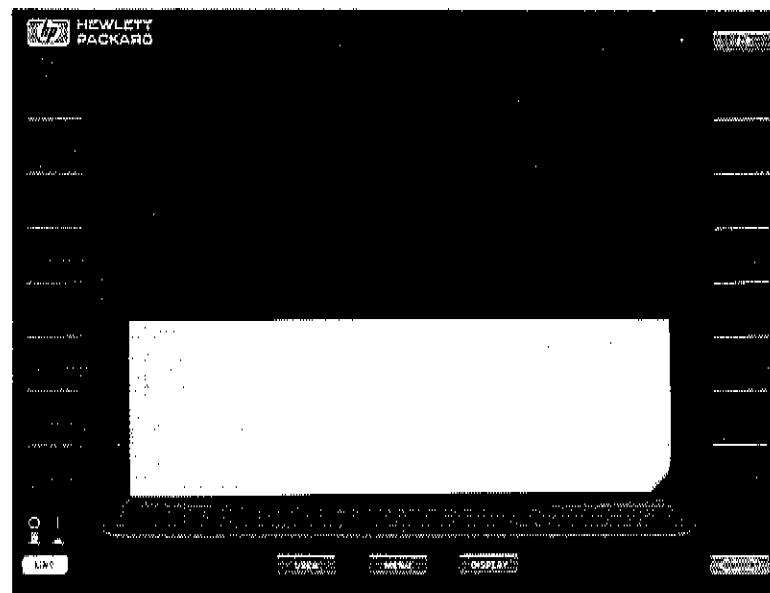

Figure 11. Test Pattern 1.
- a. Obtain Test Pattern 1 by following the procedure in Step 4 (Accessing Adjustment Test Patterns) and pressing PATTERN 1 soft key (see Figure 11).